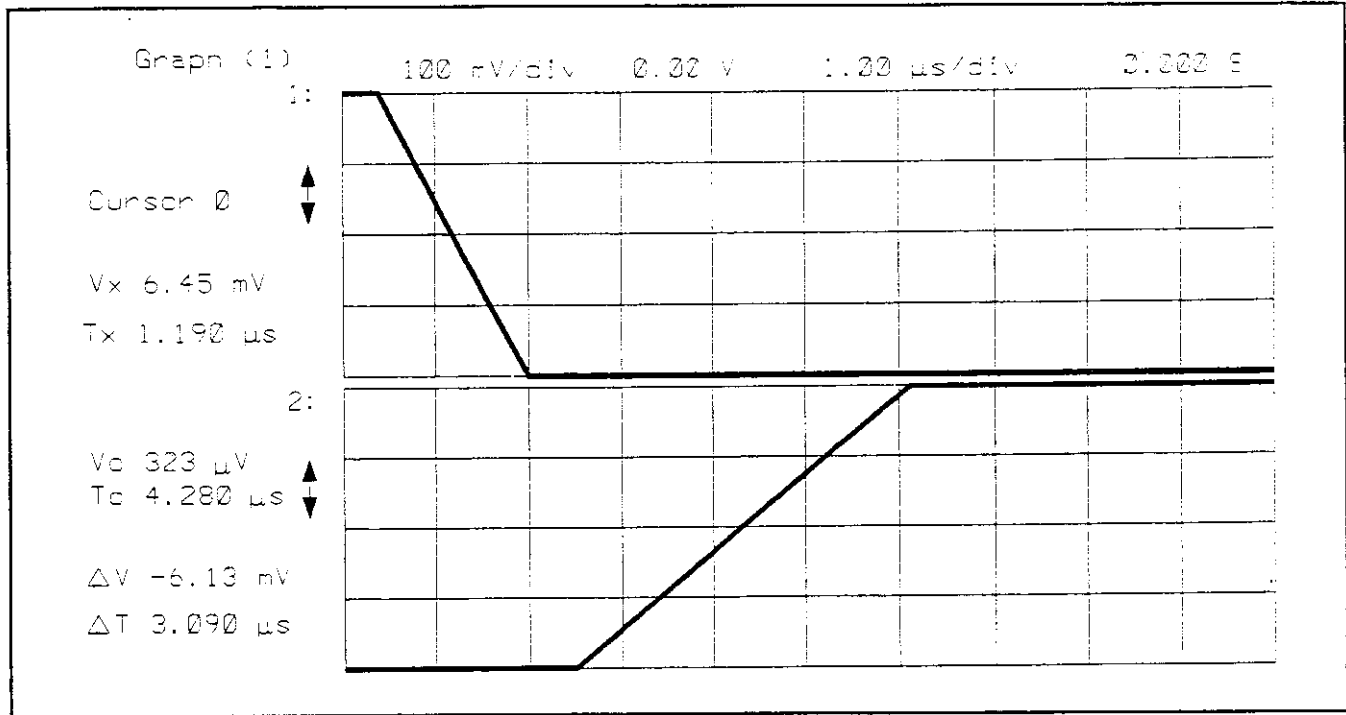

Figure 8-20. Time Difference at Zero Crossing
10. Decrease the vertical scale (smaller V/div) until the trace has a steep slope as it passes through the zero level. 100 mV/div is about right for channel 1. The top and bottom of the waveform will be off the screen. We are only concerned with the waveform as it passes through zero. Do this on both channels. Figure 8-20 shows how these waveforms should look. Changing the oscilloscope trigger level will move the waveforms to the right or left.